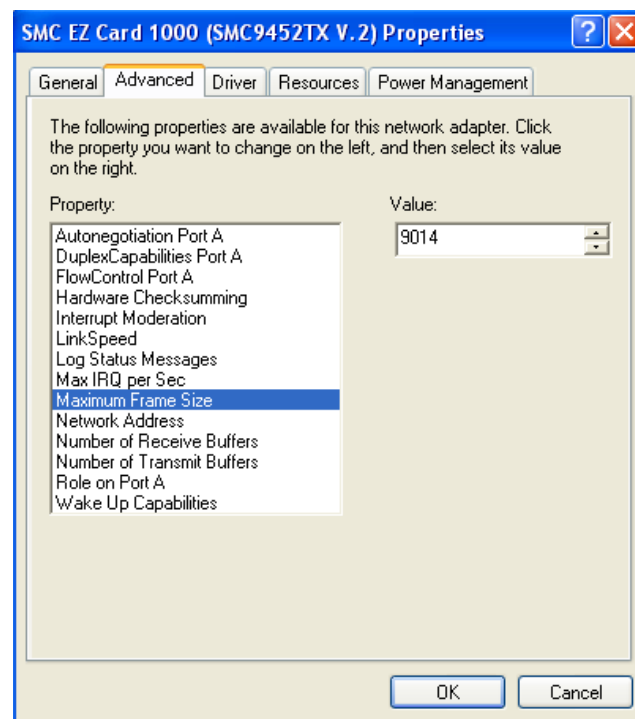

Figure 10. Network card advanced settings.
- From the Properties window select *Configure* then select the *Advanced* tab. See Figure 10.